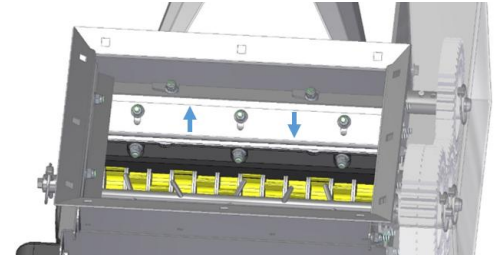

Figure 37
- The support plate is pushed up or down as required, and the nuts are retightened (see Figure 37).